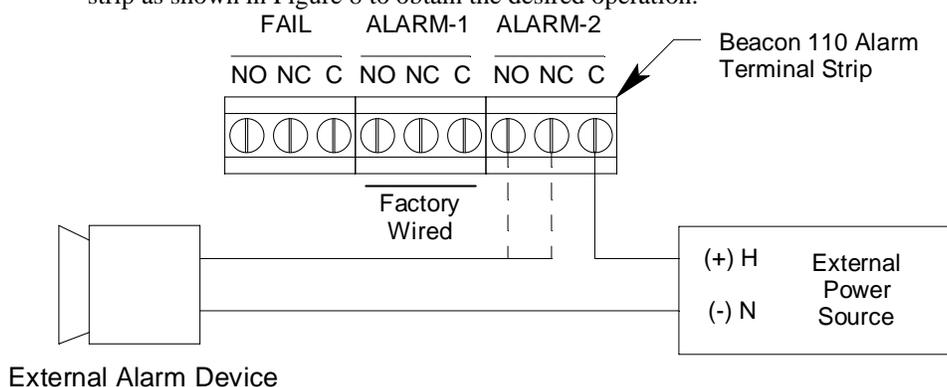

Figure 8: Typical Alarm Device Wiring
6. Connect the leads from the external alarm to the appropriate terminals on the alarm terminal strip as shown in Figure 8 to obtain the desired operation.